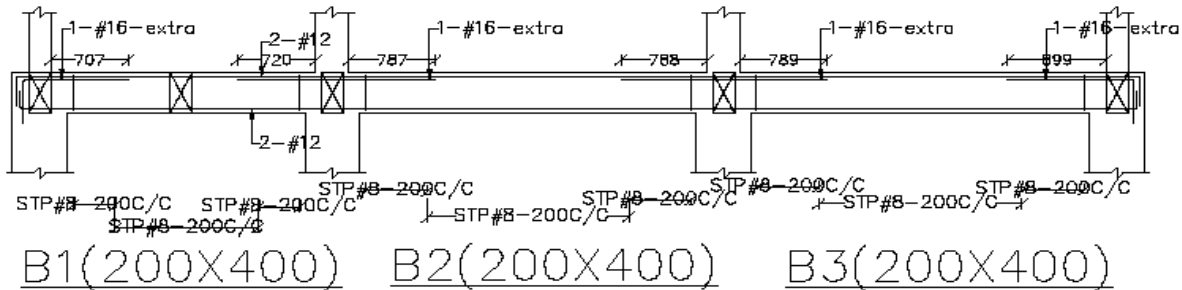

Fig 6.1.8
- Click on the **Draw in Cad** from tool bar (Fig 6.1.8)